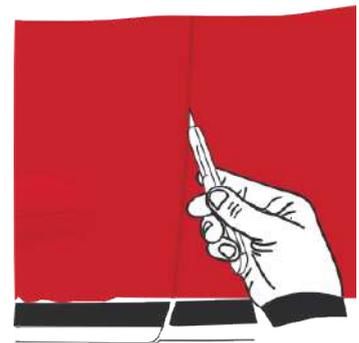

Figure 34
- › For the cut, the cutter blade must be placed against the thin edge of the part to be wrapped. When cutting, make sure you always go along the same line, with the cutter blade inclined towards the outside. (FIG. 34)